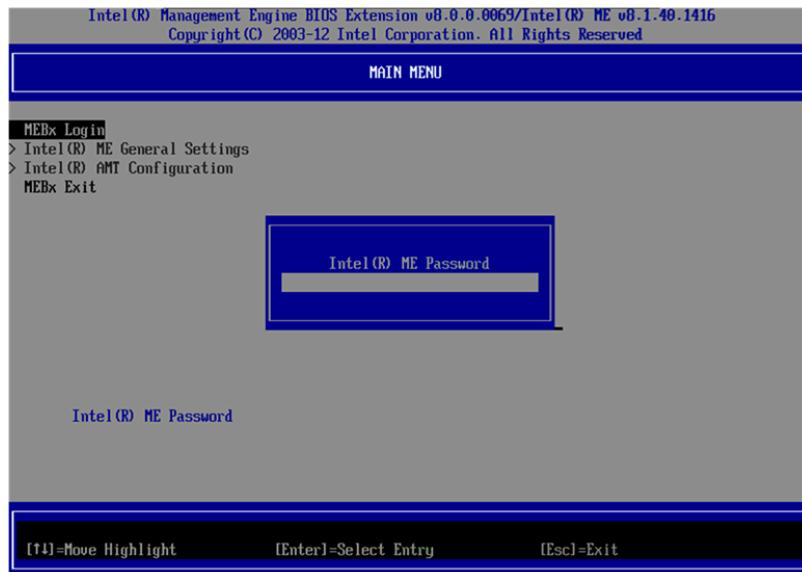

Figure 5.2 Intel AMT Main Menu
- Step 4. Press **<F10>** and select **Yes** to save your changes and restart the system. When the system performs its normal boot process the AMT main menu will appear as shown in *Figure 5.2*.